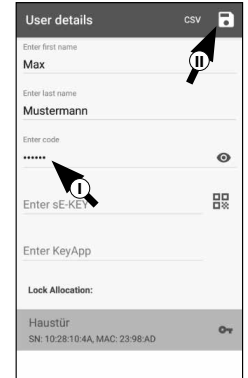

Fig. 58
- ① Delete the entry of the relevant line and, if required, enter a new user-defined code (I) (Fig. 58).
- ② Save your settings by tapping the disk symbol in the top right-hand corner (II) (Fig. 58).